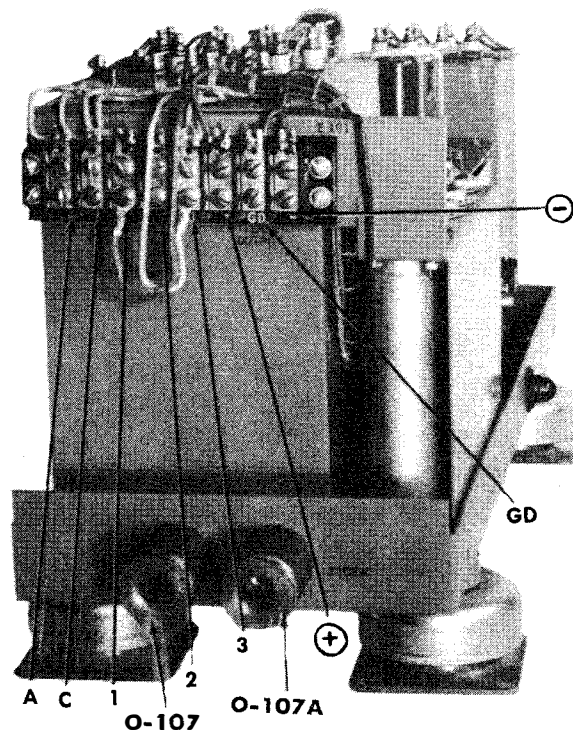

Figure 1-7 Power Supply PP-765/U End View - Terminal Block.
(5) END VIEW. (See figure 1-7)